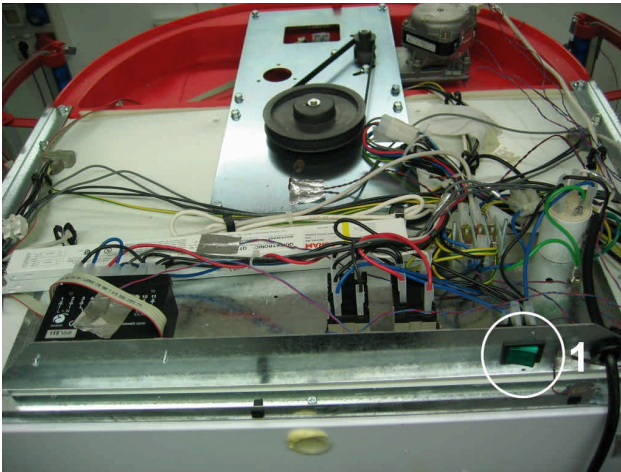
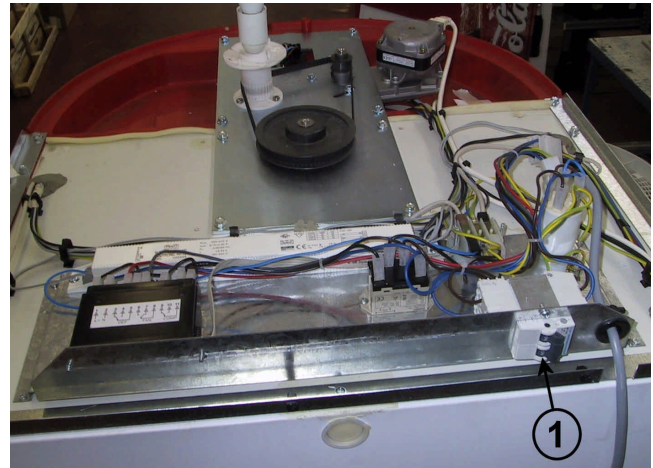

Fig. 5 (standard bi-polar lighting main switch)
Fig. 6 (circuit breaker main switch)
- *Electrical components support base plate* (Fig. 5 e Fig. 6);
- *Motor gear for shelves rotation* (Fig. 5);
- Main switch (IG) (99) and (38) (marked with "1" in Fig. 5 and Fig. 6), placed in the top rear part of the cabinet.
- Light switch (IL) (39), placed in the tank top front enclosure beside the controller master unit;